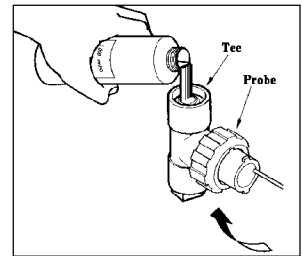

FIGURE 12
4. Close isolation valves and relieve pressure on the system by opening the sample valve. Remove and place sensor into the sample container with distilled or deionized water for a value of zero (0) to enter as the "LOW" calibration point in the following procedure (see fig. 12). If deposits or fouling is present, clean sensor per instructions in Section 10, Maintenance, pg. 44.